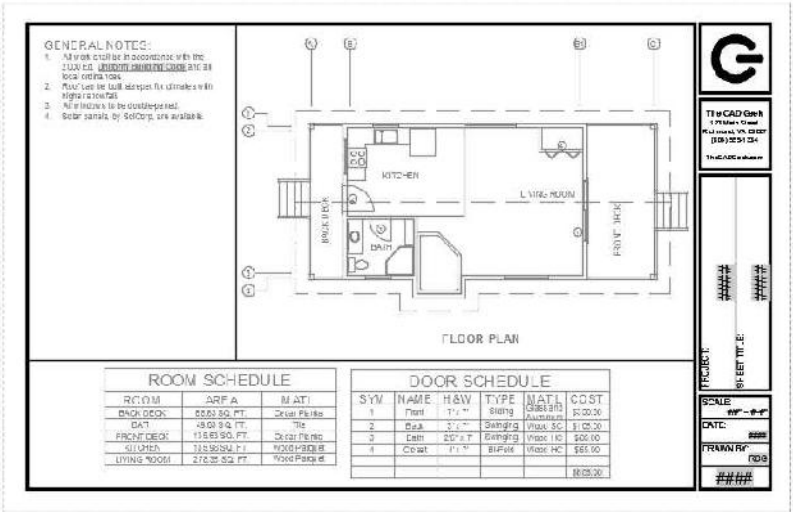

FIGURE 14.27: The new notes and table viewports
- 8. Create a new viewport in the lower-left corner of the layout (see Figure 14.27).
15. Copy this viewport, double-click inside the new viewport, and then pan and zoom until the General Notes text fills the viewport. Your drawing sheet should look like Figure 14.27.